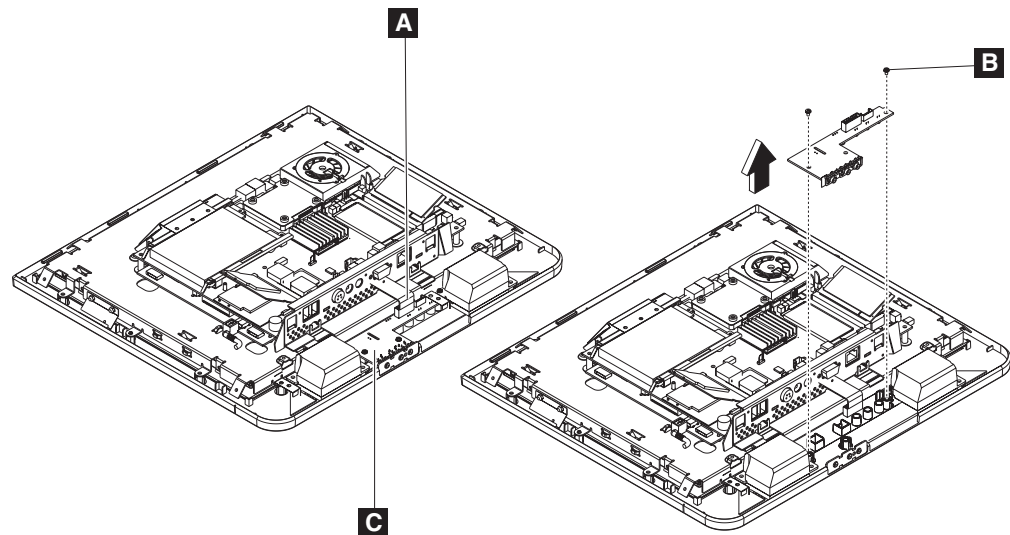

Figure 26. Removing the control card
2. See Figure 26. Disconnect the control panel cable ( **A** ).